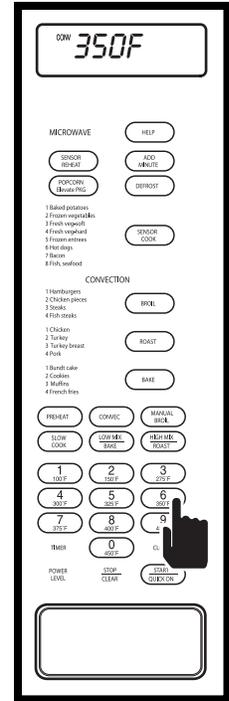

Figure 3-72. Enter Cooking Temperature
2. Select desired cooking temperature. Press the number 6 key, "350F - ENTER - COOKING - TIME" will flash on display (See Figure 3-72).